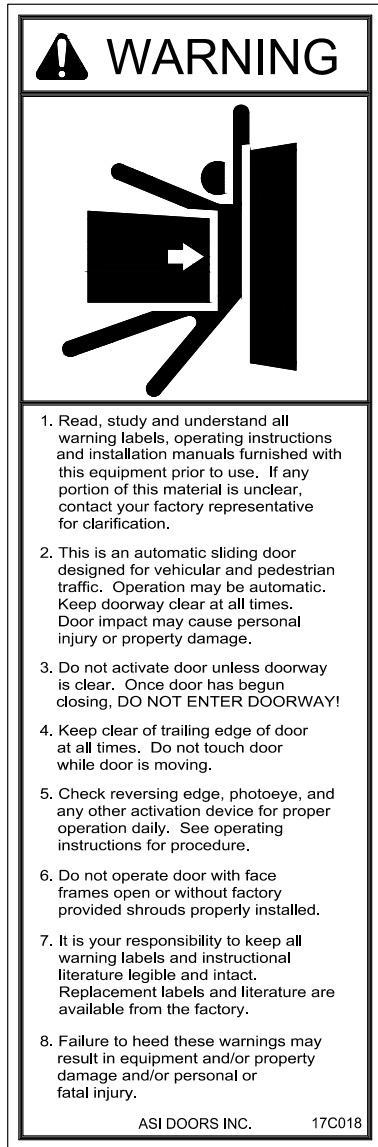
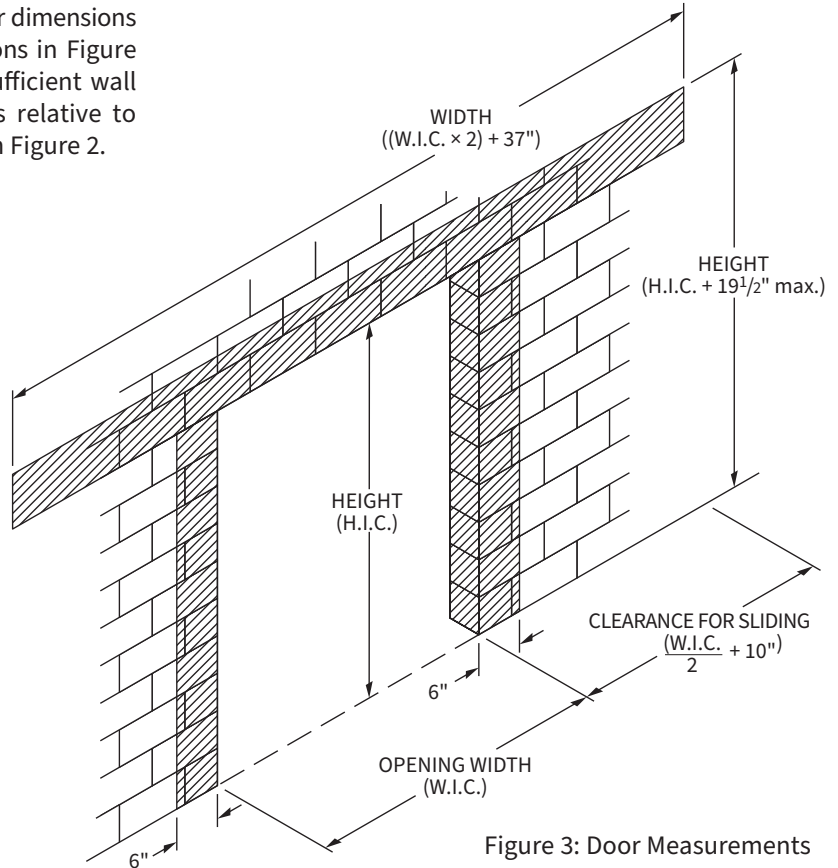

Figure 2: Warning Label (Located on Face of Leading Edge Wall Clip)
Figure 3: Door Measurements
1. Measure door opening to verify door dimensions (Figure 3 & 5). Based upon dimensions in Figure 3, determine that door will have sufficient wall space to open. Locate side frames relative to the sides of the opening as shown in Figure 2.
1. Attach the wall clip to the wall through the holes provided. Be sure that the clip is plumb. This is critical for proper photoeye operation (Page 7, Figures 3 & 5). Photoeyes are pre-mounted in face frames at factory. It is important that the transmitter and receiver are aligned for proper door operation. Make sure the photoeyes are located in-line with each other. Shimming of the wall clip & header assembly may be required to compensate for non-parallel walls.